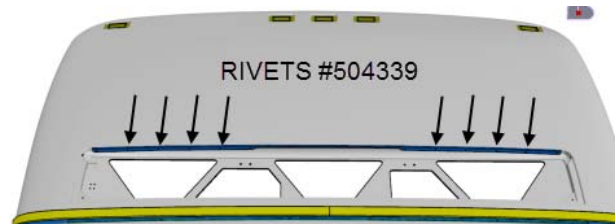

FIGURE 51
11. Fasten the drip edge using eight (8) rivets #504339 as shown on FIGURE 51.